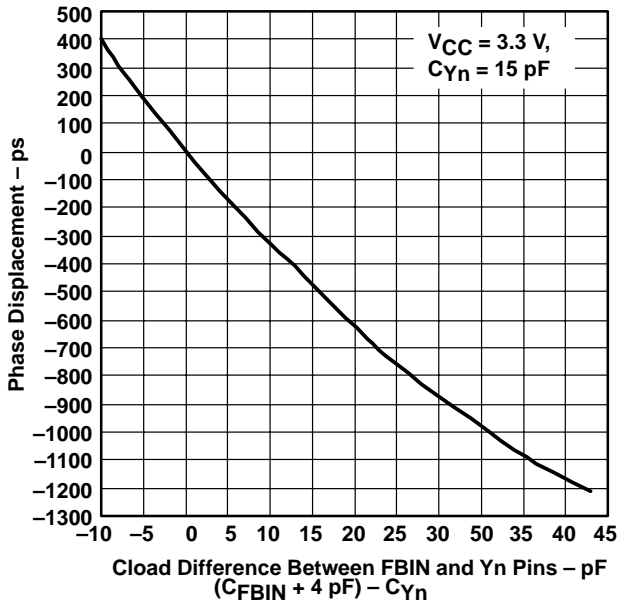

Figure 5
- Similar waveform at CLKIN and FBIN are required. Output 1Y3 is used as a feedback to FBIN loaded with 11 pF and all other outputs have 15 pF. For phase displacement between CLKIN and Y-outputs, see Figure 5.